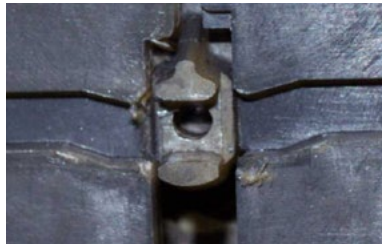

Figure 2 - Reciprocator at "Head Up" Position
2. Reach into the access opening on the bottom side of the sewing head and manually turn the z-shaft until the needle bar drive slot of the reciprocator is aligned to the drive grooves on the left and right upper arm covers as shown in Figure 2 above.